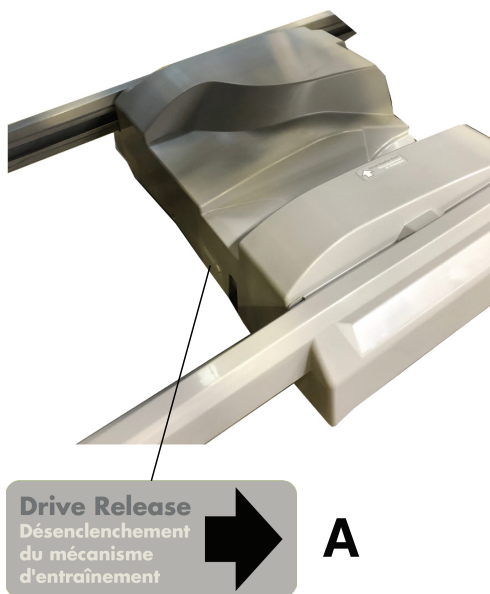

Figure 13 – Zoom Drive Release
- If Zoom loses power or has low battery while in drive, the Zoom wheel will lock in place. To allow the Zoom wheel to turn, press the Drive Release switch (A) located on the Zoom base (Figure 13).